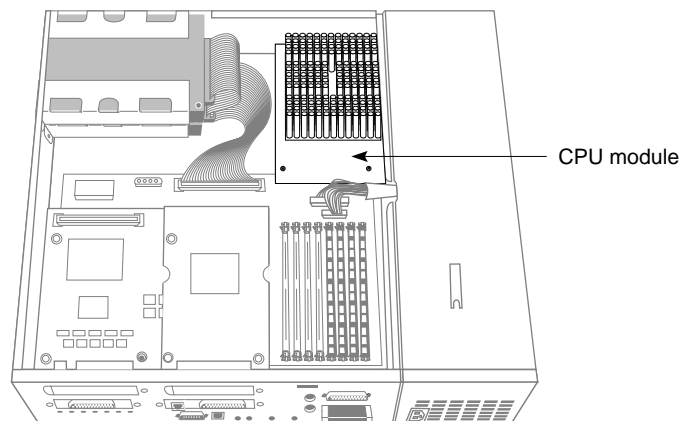

Figure 9-11 Locating the CPU Module
5. Locate the CPU module, as shown in Figure 9-11.